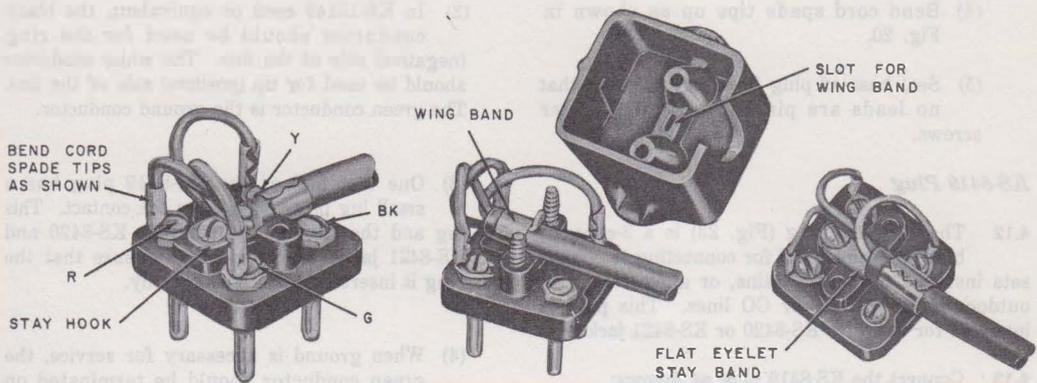

Fig. 20—Terminating Cords Equipped with a Stay Hook, Wing Bond, or Flat Eyelet Stay Band on a 283B (MD) Plug
- (1) Make a slight bend in the flat eyelet stay band in the direction away from the cord conductors.
- (2) With cord conductors up, insert RM-658901 self-tapping screw with P-284139 flat washer (shipped with 283B [MD] plug) through hole in stay band. Using farthest hole opposite cord entrance, anchor cord securely (Fig. 20).
- (3) Connect as indicated by color designations stamped adjacent to terminals.
- (4) Seat base of plug in its cover; check that no cord leads are pinched. Tighten cover screws.
- (1) Connect as indicated by color designations stamped adjacent to terminals (Fig. 20).
- (2) Bend cord spade tips up as shown in Fig. 20.
(1) Insert RM-658901 self-tapping screw through P-284139 flat washer. Using farthest hole opposite cord entrance, start screw into hole.
(2) With cord conductors up, slide cutout in stay hook under flat washer and tighten screw.
(3) Connect as indicated by color designations stamped adjacent to terminals (Fig. 20).
- (4) Bend cord spade tips up as shown in Fig. 20.
- (5) Seat base of plug in its cover; check that no leads are pinched. Tighten cover screws.